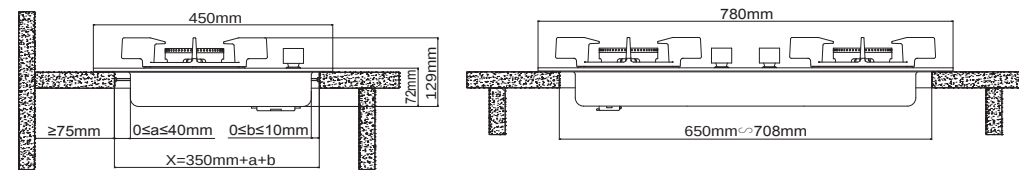

Fig.7
- 1.The stove should be installed into durable and horizontal kitchen countertop. The built-in size of the countertop can be refered to Fig.7. Make sure the distance aparting from the inflammable matters (intine) must be more than 150mm, and aparting from noncombustible matters more than 50mm.